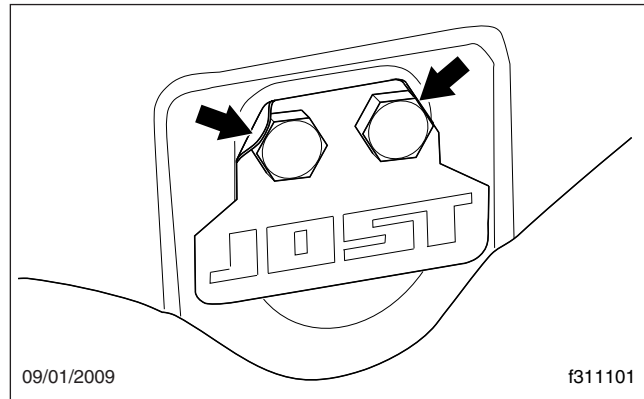

Fig. 5, Bracket Pin Bolt Locking Tabs
4. Inspect the bracket pin bolts. Make sure the locking tabs are properly securing the bolts in place. See **Fig. 5**.